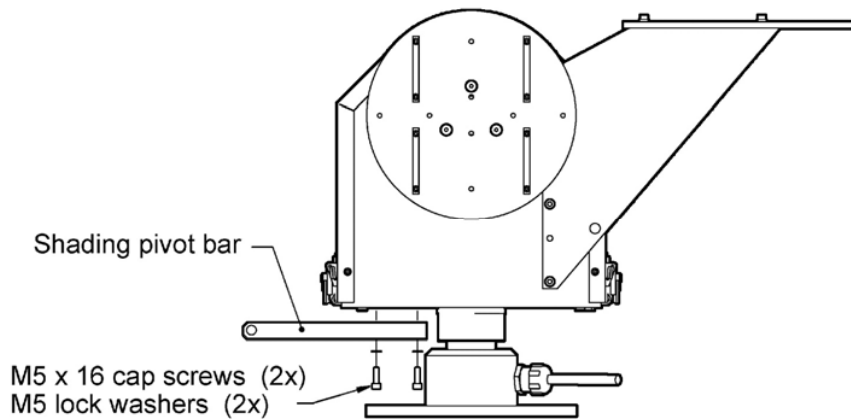

Figure 4.21: Attaching Pivot Bar
- Install the Lower Pivot Bar on the underside of the chassis bottom plate with designated screws, see figure 4.21.